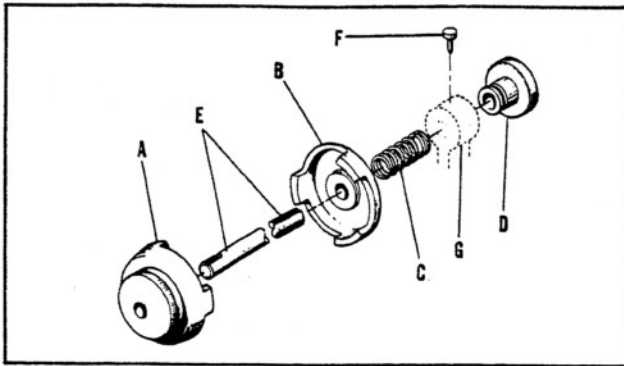

Figure 3
1. Loosen set screw (Index F, figure 3) on top of coil holder bracket.
2. Place the rear friction disc (Index B, figure 3) and spring (Index C, figure 3) on the threaded end of spindle (Index E, figure 3). Insert the threaded end through the hole in the bracket (Index G, figure 3).
3. Turn knurled adjusting screw (Index D, figure 3) on the end of the spindle until the end is flush with the back side of the adjusting screw.
5. Turn the set screw (Index F, figure 3) down, making sure that the set screw engages in the groove of the adjusting screw. Tighten set screw.
4. Place the coil holder with the wire on the bracket spindle, align the pin in the front friction disc (Index A, figure 3) with the bayonet slot, push the disc and coil holder back on the spindle and turn front disc to the left until the pin engages in the bayonet lock.
5. Adjust the spring tension on the coil holder with the adjusting knob (first loosen set screw Index F, figure 3) so that the coil will turn freely yet will not over run. Tighten the set screw and lubricate both front and rear friction discs so that the rotating parts will turn freely with the coil holder. Once the spring tension is adjusted, no additional adjustments are required when reloading the holder.